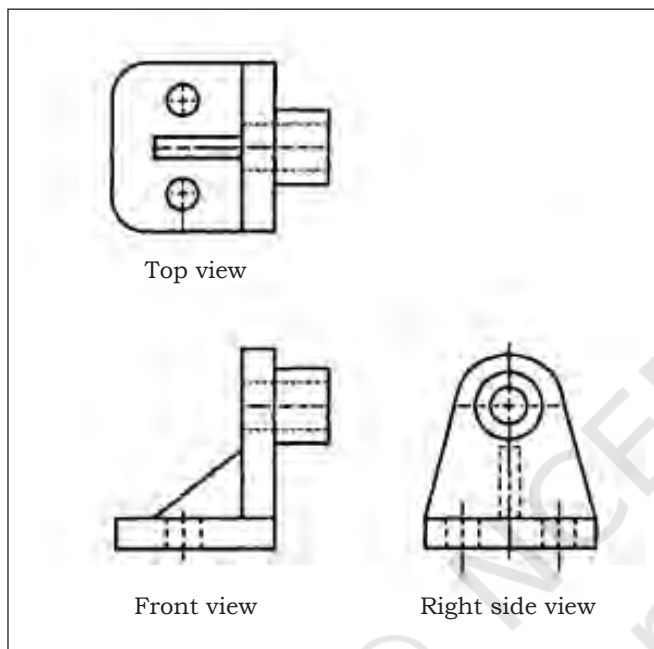

Fig. 1.40: Orthographic views
7. Check the places of the views shown in Fig.1.40. As per practice, the top view is placed above the front view and the right side view is placed to the right of the front view. If additional views are needed, the left side is always drawn to the left of the front view and the bottom is drawn below the front view. Placement of the back view is flexible; it is usually drawn to the left of the left side view. When understanding the different orthographic views, a pictorial sketch should be prepared.